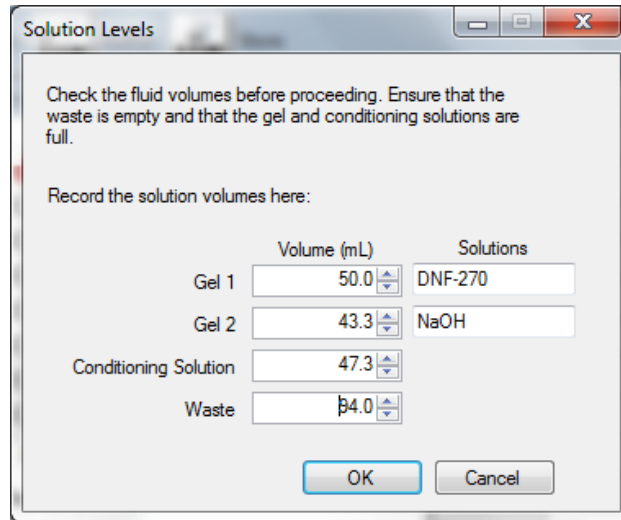

Figure 1. **Solution Levels** menu
- When adding Separation Gel to the instrument, update the solution levels in the *Fragment Analyzer™* instrument control software. From the Main Menu, select **Utilities – Solution Levels**. A menu will be displayed to enter in the updated fluid levels (Figure 1).
5. When adding fresh 1X Capillary Conditioning Solution to the instrument, update the solution levels in the *Fragment Analyzer*TM instrument control software. From the Main Menu, select **Utilities – Solution Levels**. A menu will be displayed to enter in the updated fluid levels (Figure 1).